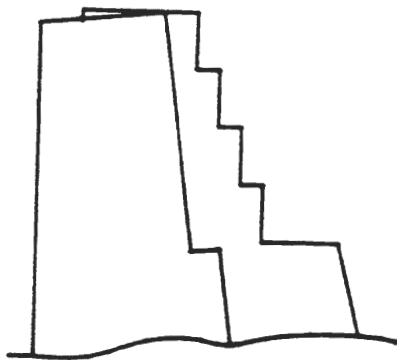

Figure 5.5.3
6. If the mounting force indicated is less than rated force, tighten the bolts alternately $1/4$ turn at a time until the points coincide. (See Figure 5.5.3.)